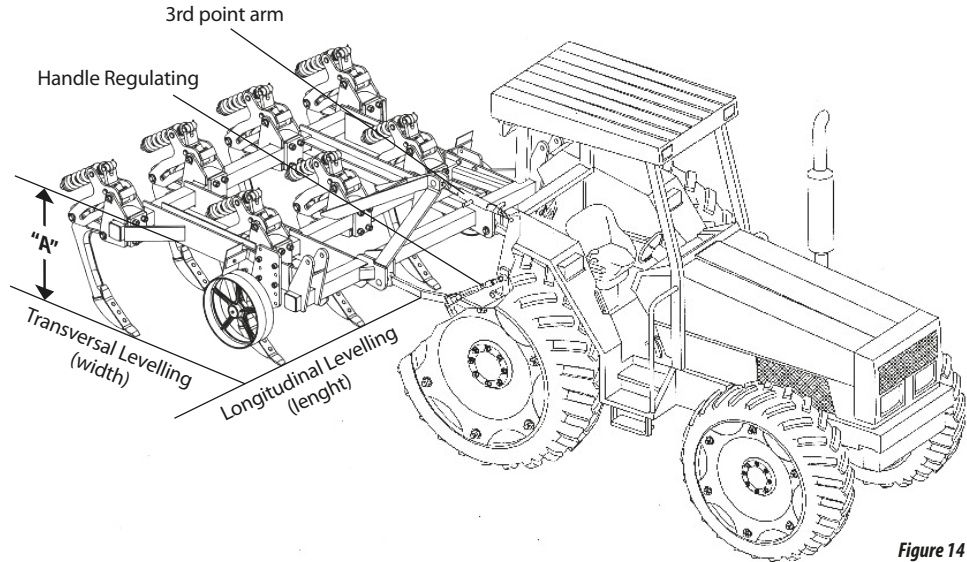

Figure 14
- 15-Note that the rods should be parallel to the ground according to figure 14.